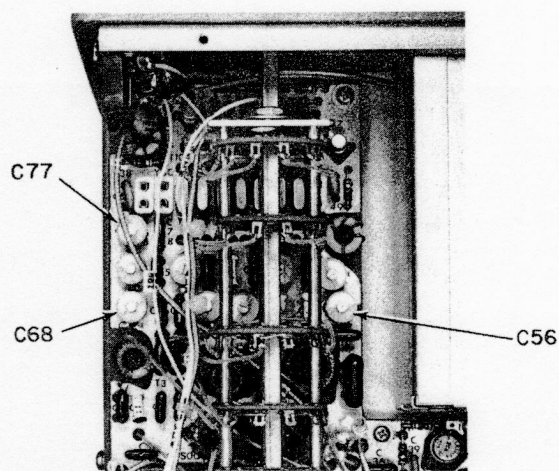

Figure 5-18. Location of C56, C68, and C77 on Front End Board
f. Tune the applicable trimmer capacitor (see Figure 5-18) listed in Table 5-2 for a zero beat with the calibrator output.